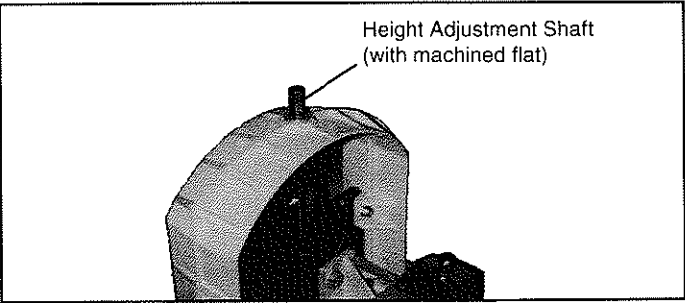

Figure 6
2. Locate the 4 mm set screw threaded into the side of the Height Adjustment Crank. Position the Height Adjustment Crank over the Height Adjustment Shaft with the set screw aligned with the machined flat area on the Height Adjustment Shaft. (See Figure 6.)